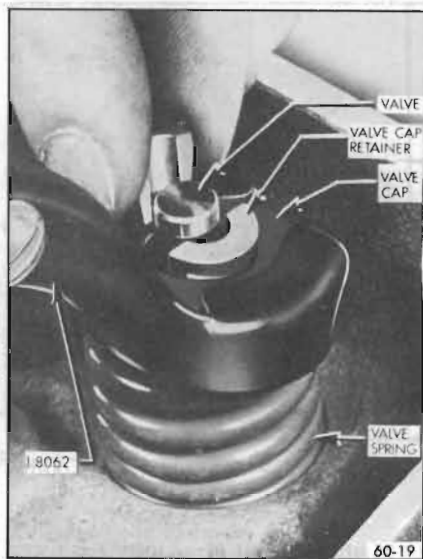

Figure 60-113—Removing Valve Cap Retainers
2. Using a suitable spring compressor, such as J-8062, compress valve spring and valve spring cap keys. Release tool and remove spring and cap. See Figure 60-113. Valve cap keys are copper colored for identification purposes only.